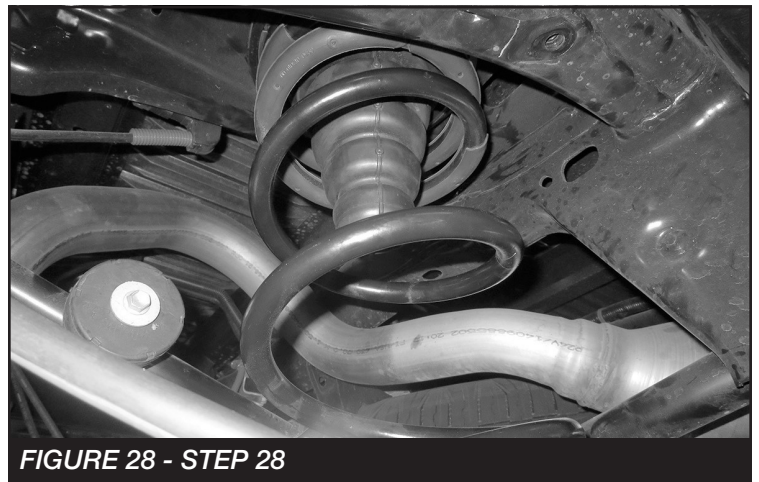

FIGURE 28 - STEP 28
28. Reinstall the rear coil springs with the factory isolators. **SEE FIGURE 28**